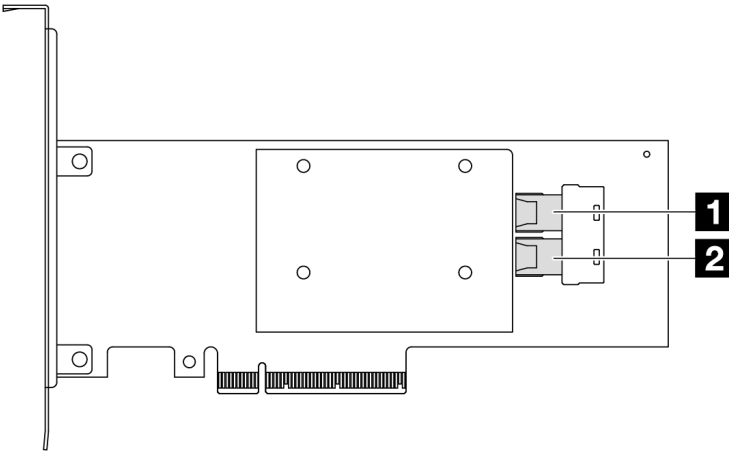

Figure 296. A Gen 3 8i SFF RAID/HBA adapter (two port connectors)
- Figure 296 “A Gen 3 8i SFF HBA adapter (two port connectors)” on page 289